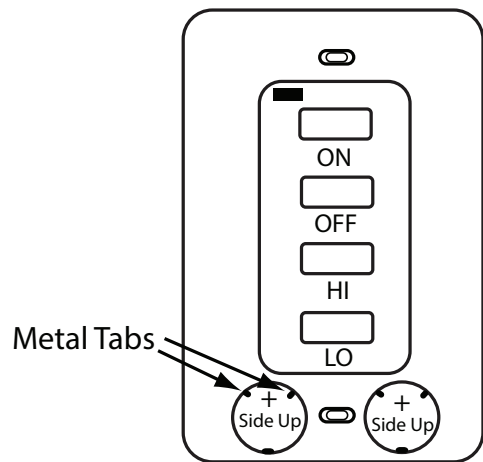

Fig. 3 Battery Installation
3. Place the button cell batteries into the battery holders under the metal tabs and snap into place. (Ensure the batteries are installed with the (+) plus side out as shown in figure 3 on page 2.)
4. Use the (2) two dry wall anchors and screws (supplied) to mount the base plate on the wall or mounted onto an existing plastic electrical box. See figure 3 base plate holes centered at top and bottom of transmitter.